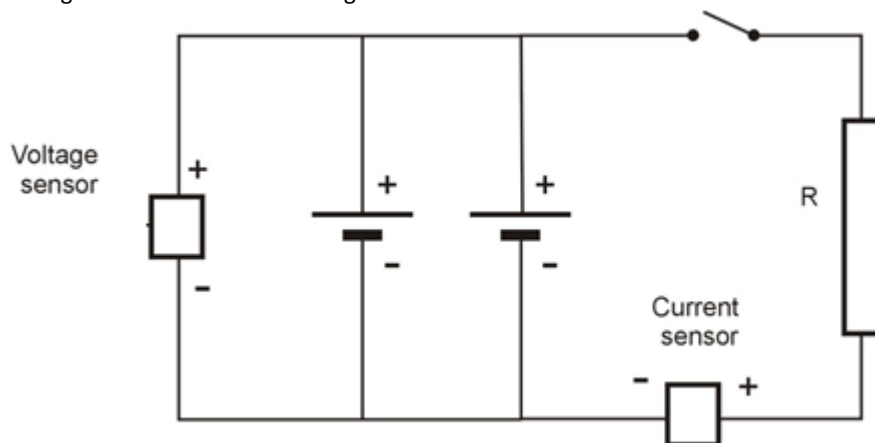

Figure 3
1. Rearrange the circuit as shown in Figure 3.